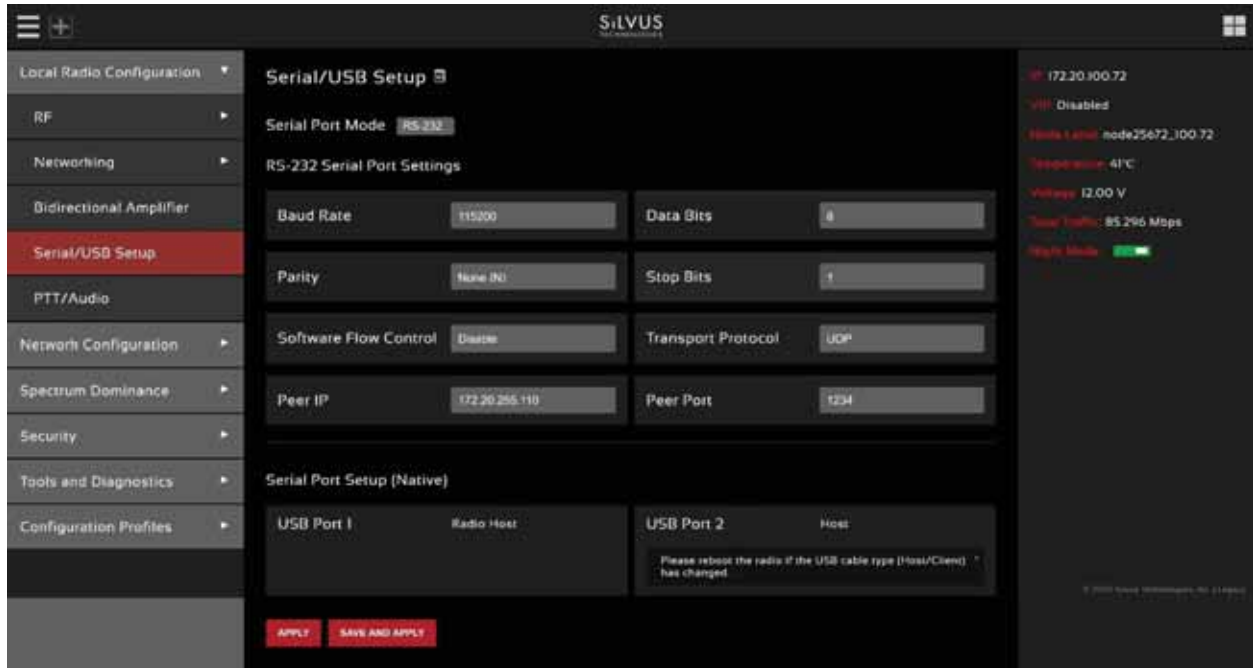

Figure 39 Serial/USB Setup Page
- **RS-232:** The RS-232 mode provides a wireless serial connection between any two serial devices connected to StreamCaster radios on the network. In this mode, the user must configure the RS-232 protocol parameters shown in **Figure 39 Serial/USB Setup Page** above. The transport protocol for the serial data can be set as either TCP or UDP. For data that is sensitive to latency such as command and control data, UDP is recommended. For data that cannot tolerate any data loss, such as telemetry data, TCP is recommended.